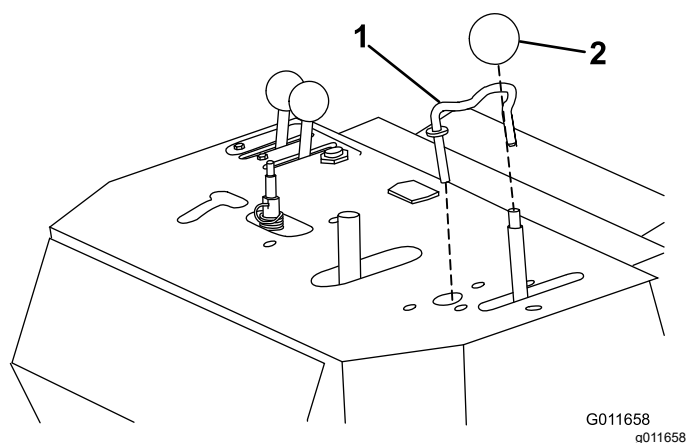

Figure 6
5. Thread the knob off of the boom-control lever (Figure 6).
6. From under the control panel, remove the hairpin cotter and washer that secure the boom-control lever lock and remove the lock (Figure 6).